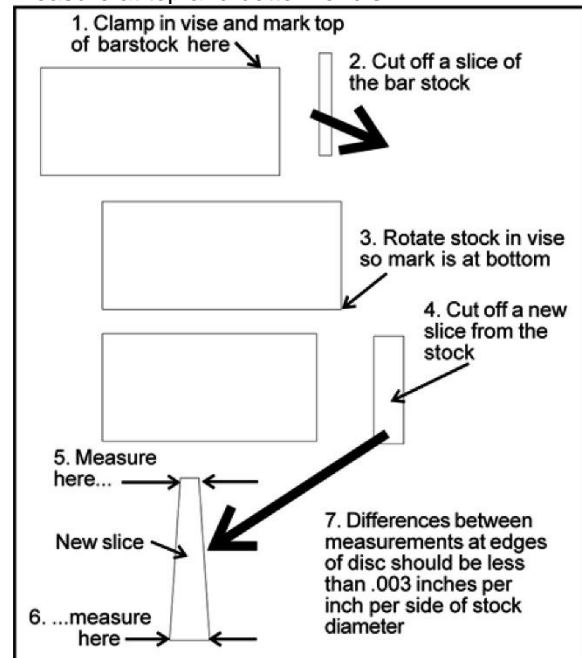

Figure 8-11
1) With bar stock securely clamped in vise, make a cut through the bar stock. (See Figure 8-11.)